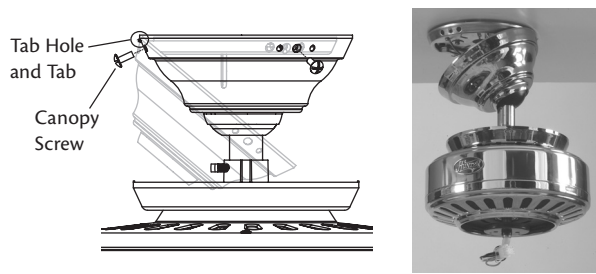

Figure 19 - Installing the canopy
- Hook the tab hole over the tab on the ceiling plate as shown in Figure 19.
- Raise the canopy, be sure the holes in the canopy and the ceiling plate are aligned, and loosely assemble the canopy screws one at a time. When all three screws are assembled, securely tighten all three canopy screws. Refer to Figure 19.